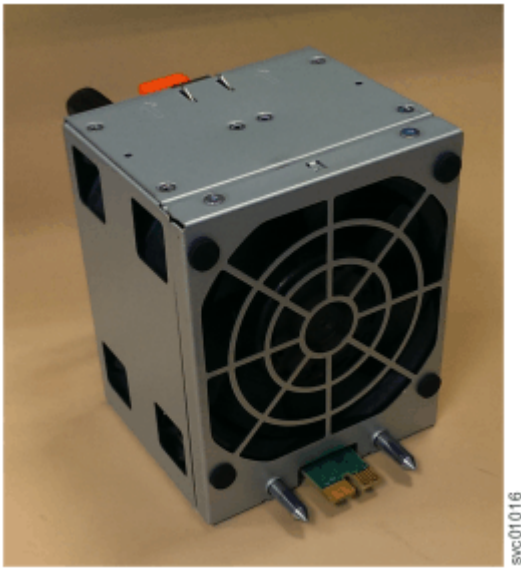

Figure 172. Fan module orientation
5. Hold the fan module with the release tab on top and the connector pin on the bottom, as shown in Figure 172 on page 227.